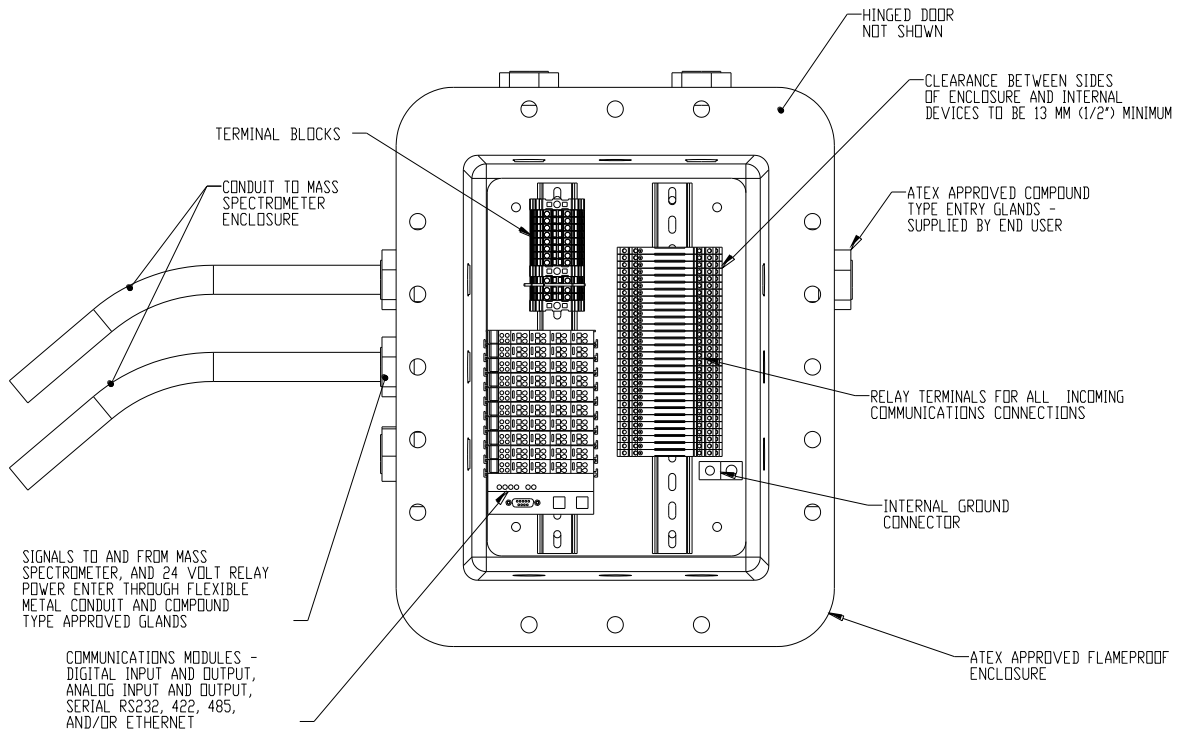

Figure 19: External communications disconnect box option
This external communications disconnect box option is used in Category 2 (Zone 1) and Div 1 applications, in cases where fiber optics communications is not practical. The box contains user wiring connections, and is equipped with devices that disconnect user wires from the purged enclosure in the event of pressurization failure. Refer to Figure 19.
- The type of flameproof box will differ, depending on communications options and gas group. The box depicted in figure 19 is suitable for IIB + Hydrogen (Group B). Consult Extrel CMS for Gas group IIC (Group A) applications.